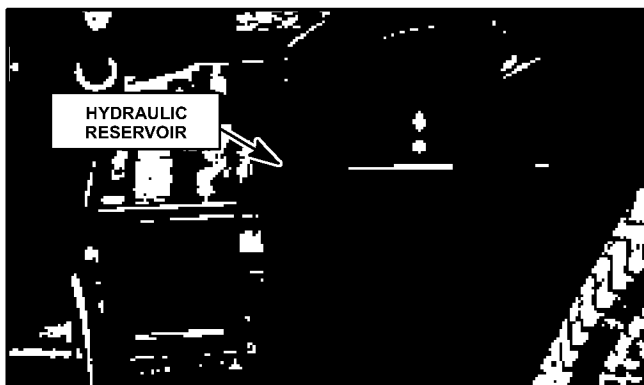

Figure 72
2. Remove the dipstick/breather plug from the top of the tank (See Figs. 72 and 73). Wipe the dipstick, then place in tank with the threaded flange resting on the tank (do not screw in). Fluid should show on the knurled portion of the dipstick (See Fig 73). Add fluid as required.